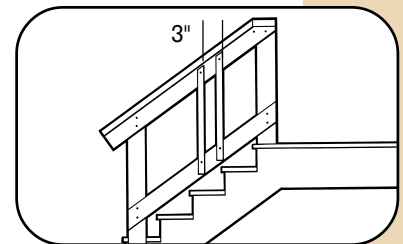

Fig. 42
- Balusters must be installed no more than 3" apart\* (Fig. 42). Use a level and a square to ensure proper alignment of each Baluster. *Note: A piece of scrap Side Rail cut 3" wide can be used as a spacer when installing Balusters.*